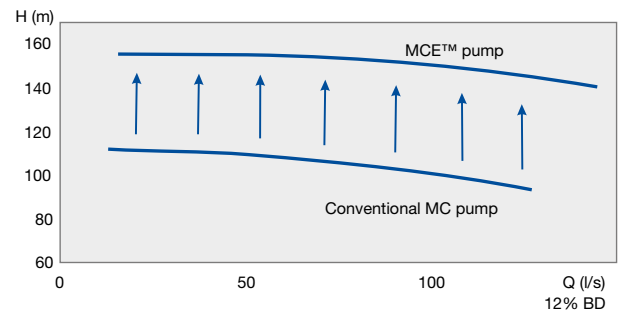

Fig. 1b. Higher pump heads with existing power consumption.
- higher pump heads (Fig.1b, Fig. 4)